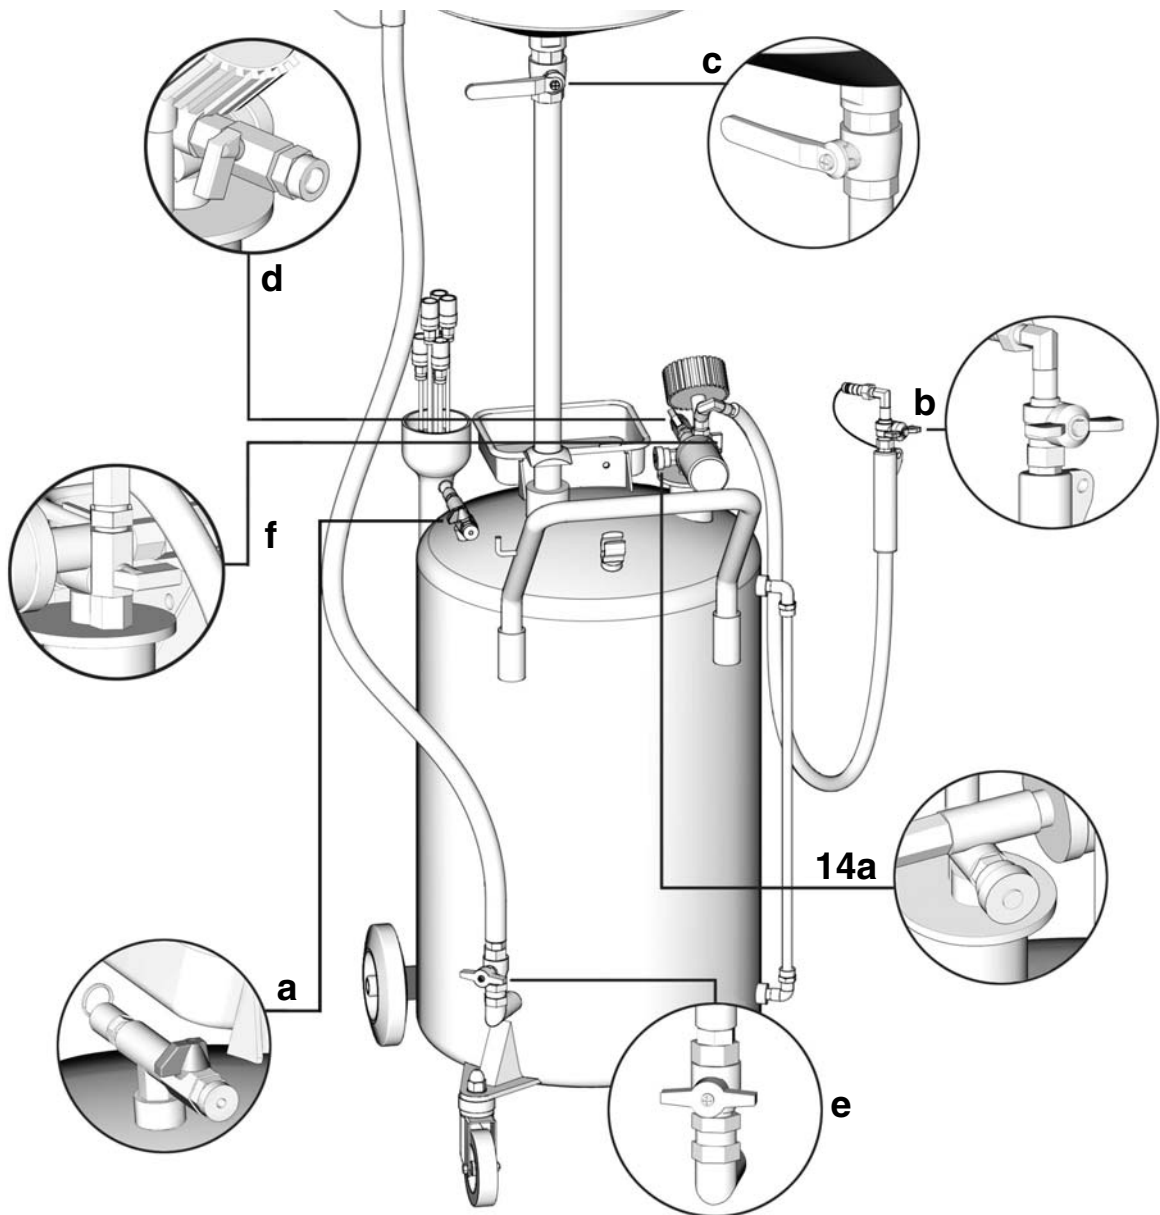
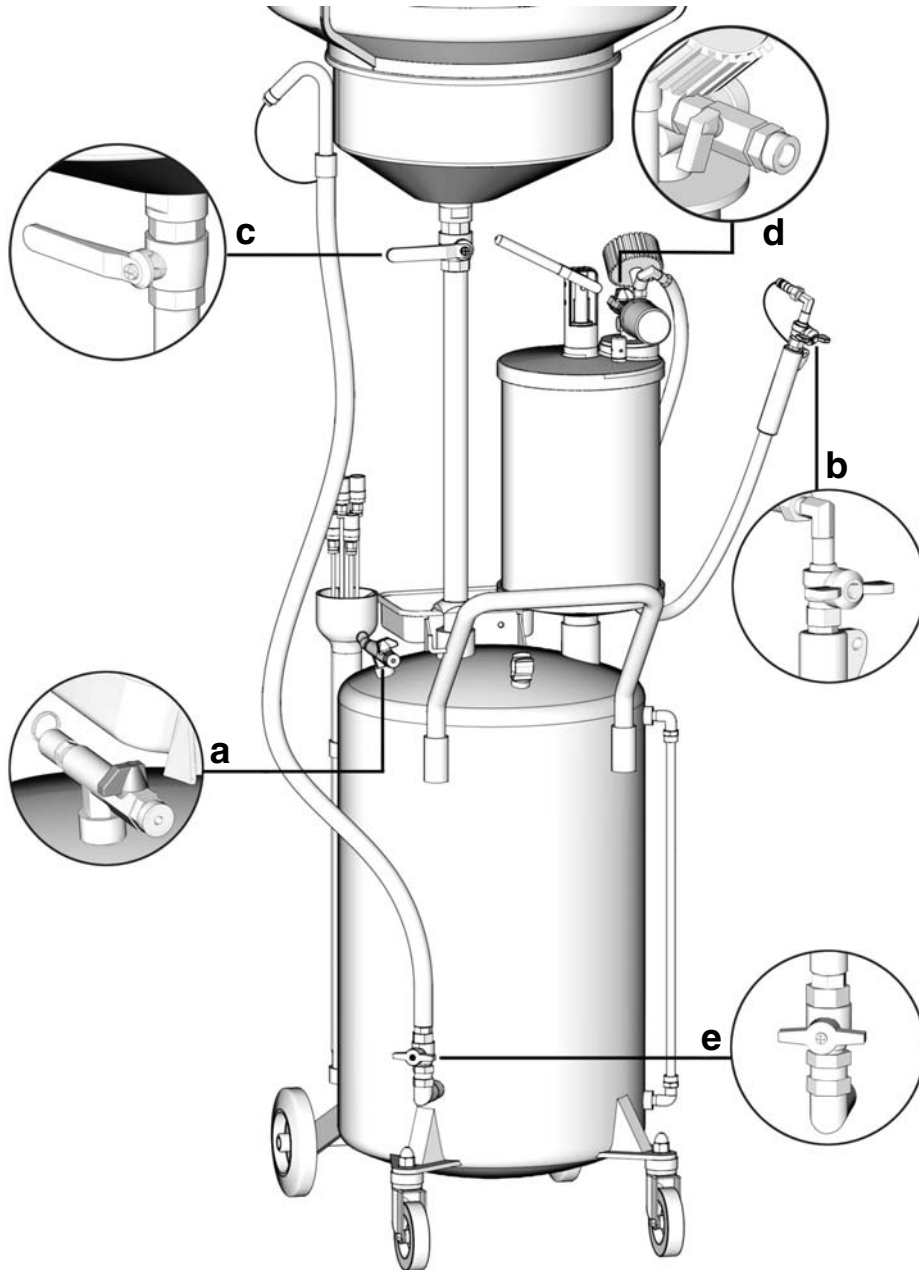

FIG. 1
FIG. 2
Refer to FIG. 1 to identify the valve locations.
NOTE: In FIG. 1, all valves are shown in the closed position.
Refer to FIG. 2 to identify the valve locations.
NOTE: In FIG. 2 all valves are shown in the closed position.
NOTE: For Models 26C061 and 26C063 valve locations see FIG. 1, page 3. For models 26C062 and 26C064 valve locations see FIG. 2, page 4.
NOTE: For valve locations see FIG. 1, page 3.
NOTE: For valve locations see FIG. 2, page 4.
NOTE: For valve locations see FIG. 1, page 3 for model 26C063 or FIG. 2, page 4.
1. Close all valves, (a, b, c, d, and e) (Model 26C063, see FIG. 1, page 3; Model 26C064 see FIG. 2, page 4).